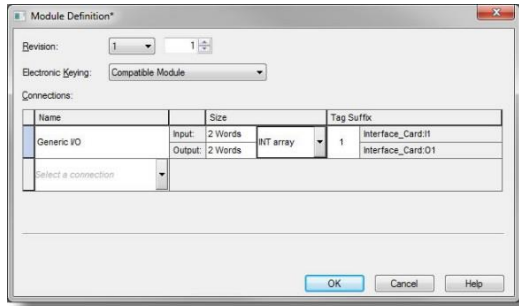

Figure 33: AOP Generic I/O Module Definition
- 3) Configure the Generic I/O connection. Refer to Figure 33.